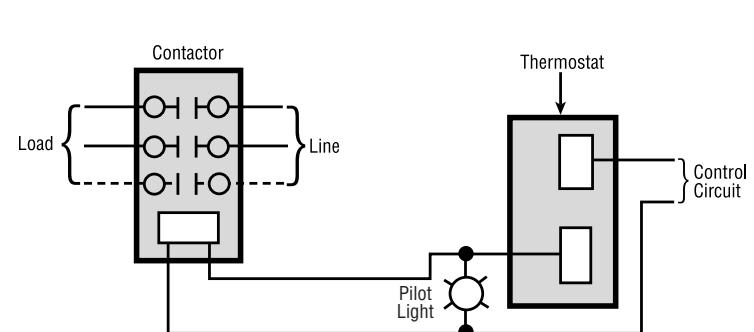

Figure 11 — Single phase loads when load exceeds rating of thermostat and three phase loads.
5. Note: If load amperage or voltage rating exceeds switch rating, a contactor must be used. (See Figure 11) Contactors are available as an optional part.